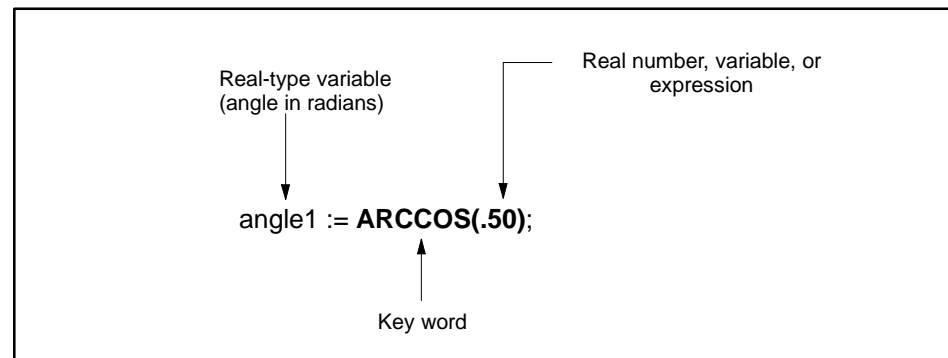

Figure 11-3 ARCCOS Function
- The returned value is a real number that represents the measure of an angle in radians. For example, in Figure 11-3, the value of the variable, **angle1**, is 1.05.